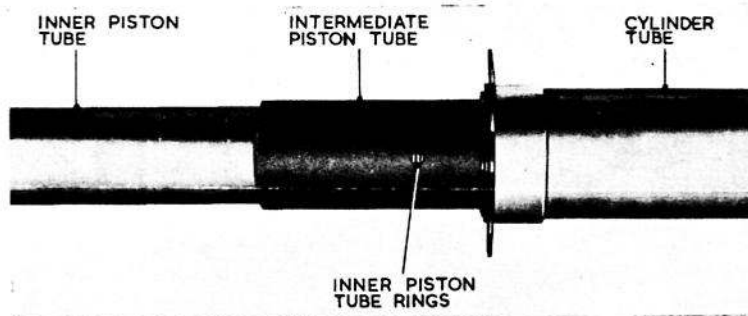

Fig. 13. Examining inner piston tube rings
- (4) Gently extend the inner piston tube until the piston rings can be seen through one of the flash holes (*fig. 13*).
- (5) Examine and lubricate the inner piston rings by repeating actions (2) and (3).
- (6) Gently ease in the inner piston tube until it is fully home in the intermediate piston tube.
- (7) Pull out the release button but do not release it until the piston tubes have been pushed, right home. When the release button is freed the piston tubes should be found to be locked into the cylinder tube against withdrawal. On no account should the piston tubes be allowed to bottom hard before the release button is withdrawn or the cylinder head locking tabs will be damaged.